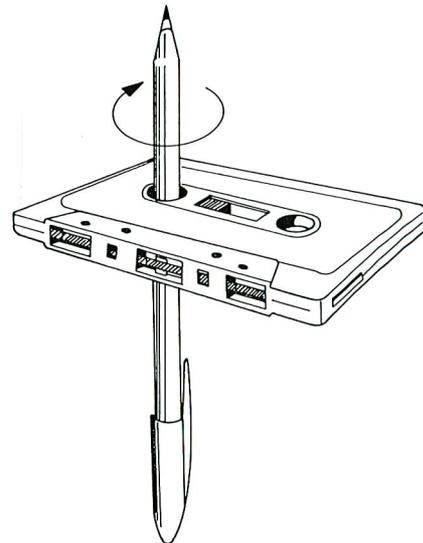

Fig. 2
1. Before inserting a cassette to record or playback, tighten the tape so that no loose layers of tape can be seen when looking through the centre window, (See Fig. 1). Use a pencil or a ball point pen to tighten the tape, (See Fig. 2).